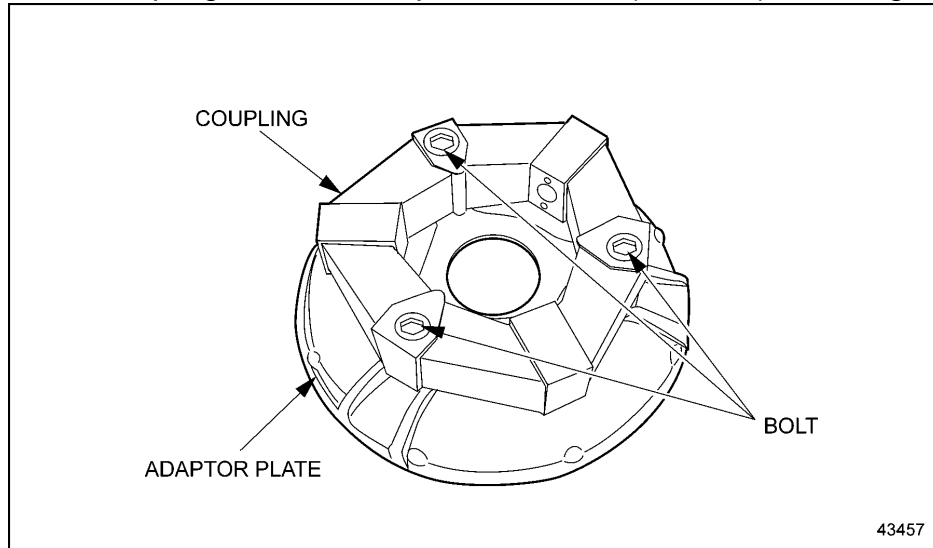

Figure 3 Install Ring Gear and Coupling onto Adaptor Plate
7. Install coupling bolts and torque to 258 lb-ft (350 N·m). See Figure 3.